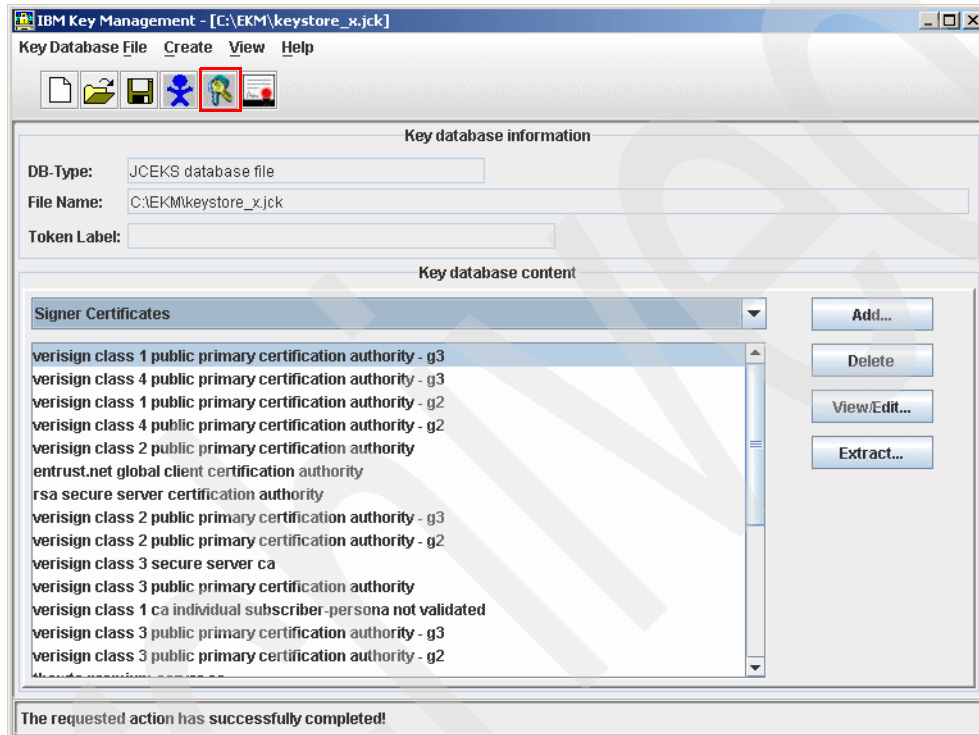

Figure 6-18 Creating self-signed key
1. In the IBM Key Management window, click the **Create Certificate** icon on top of the page, which is highlighted in Figure 6-18.